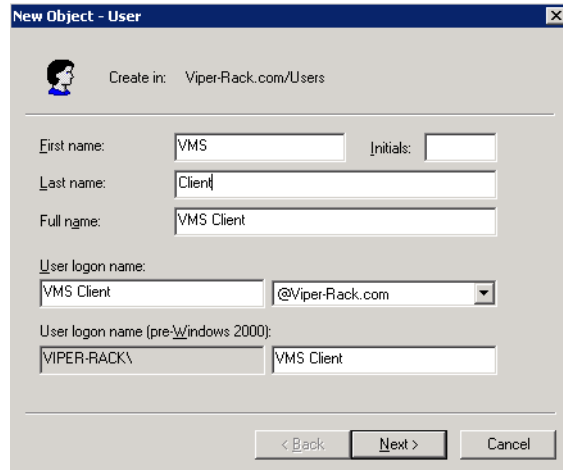

Figure 2-39 Create User Dialog
- Right-click on **Users** again in the Active Directory window and select **New User**. The New Object–User dialog will open (figure 2-39). The user name can be anything desired and will be used to log onto the server from the client machine.